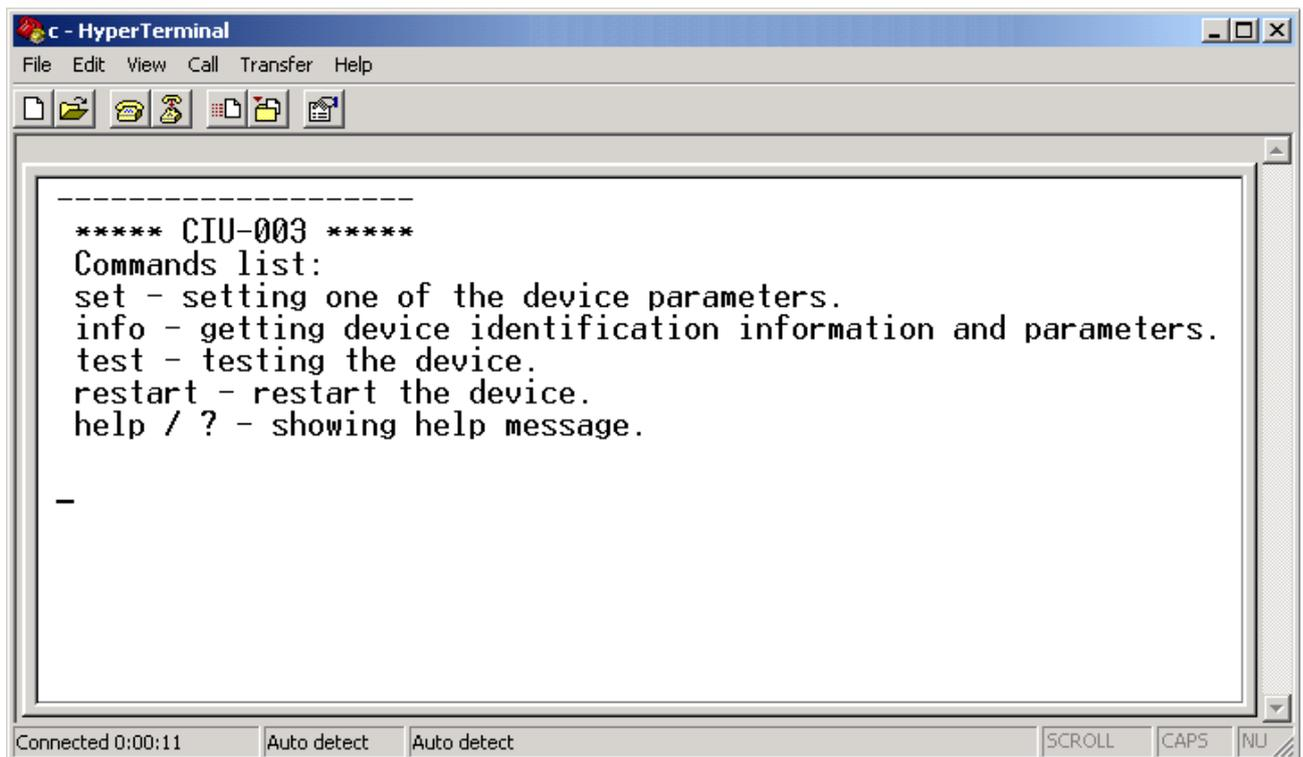

Figure 3.6
- h) after you have finished configuring the settings, press **ENTER** on the keypad or type **help** command or click ? in the input/output window. If the Analyzer is properly connected to your PC, you will see the text with the list of available commands in the input/output window (see Figure 3.6).